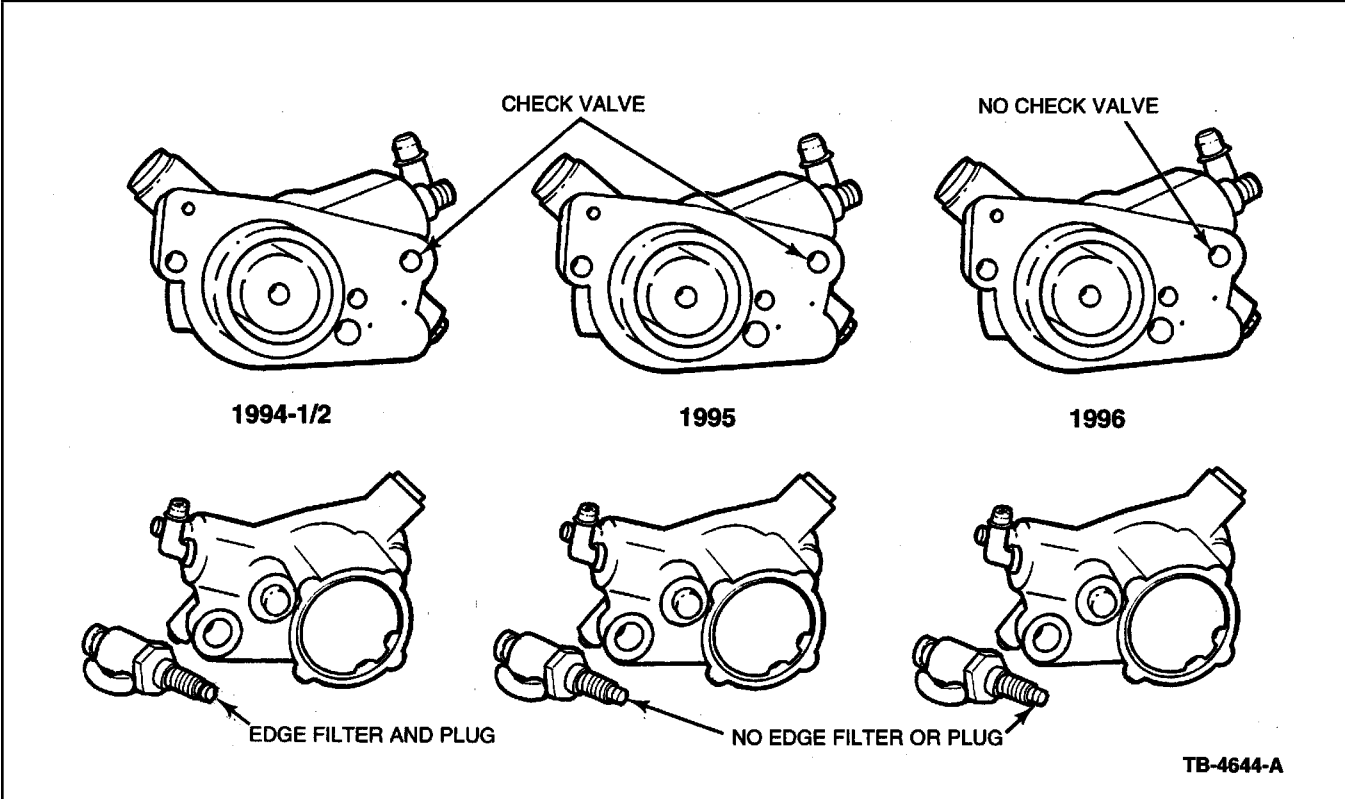

Figure 2 - Article 96-11-13
- Drain check valve deleted in high pressure pump. Figure 2.
- Integral edge filter incorporated into high pressure pump (starting with #187100). Figure 2.
- IPR valve deleted edge filter (starting with #187100). Figure 2.